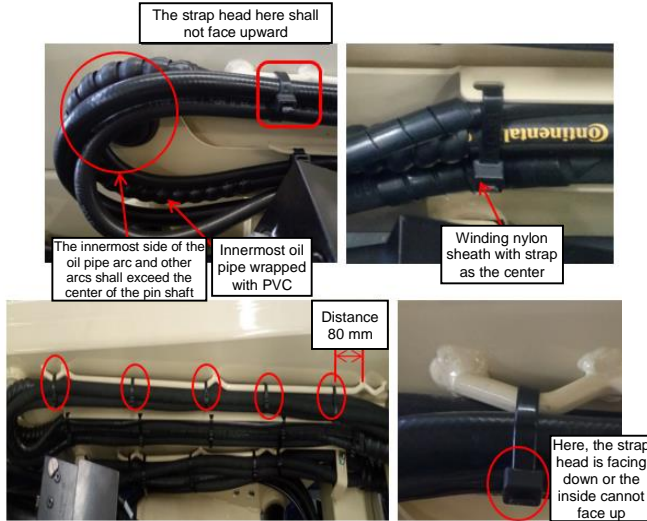

Fig. 4.53 Installation of second layer pipeline
- a) Lay the oil pipe and harness around the middle pin to the rear end of the fork according to Fig. 4.53, pass under the rear pipe of the second inner frame, and then fix the oil pipe and harness on the round steel of the inner frame;